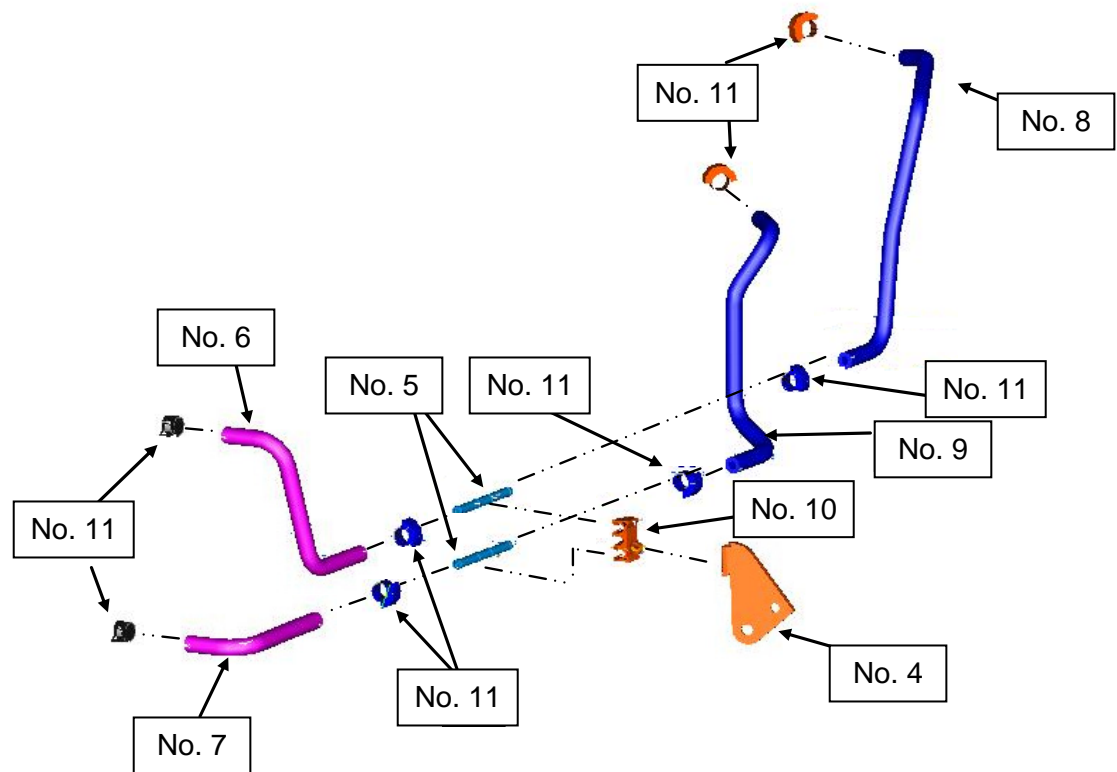
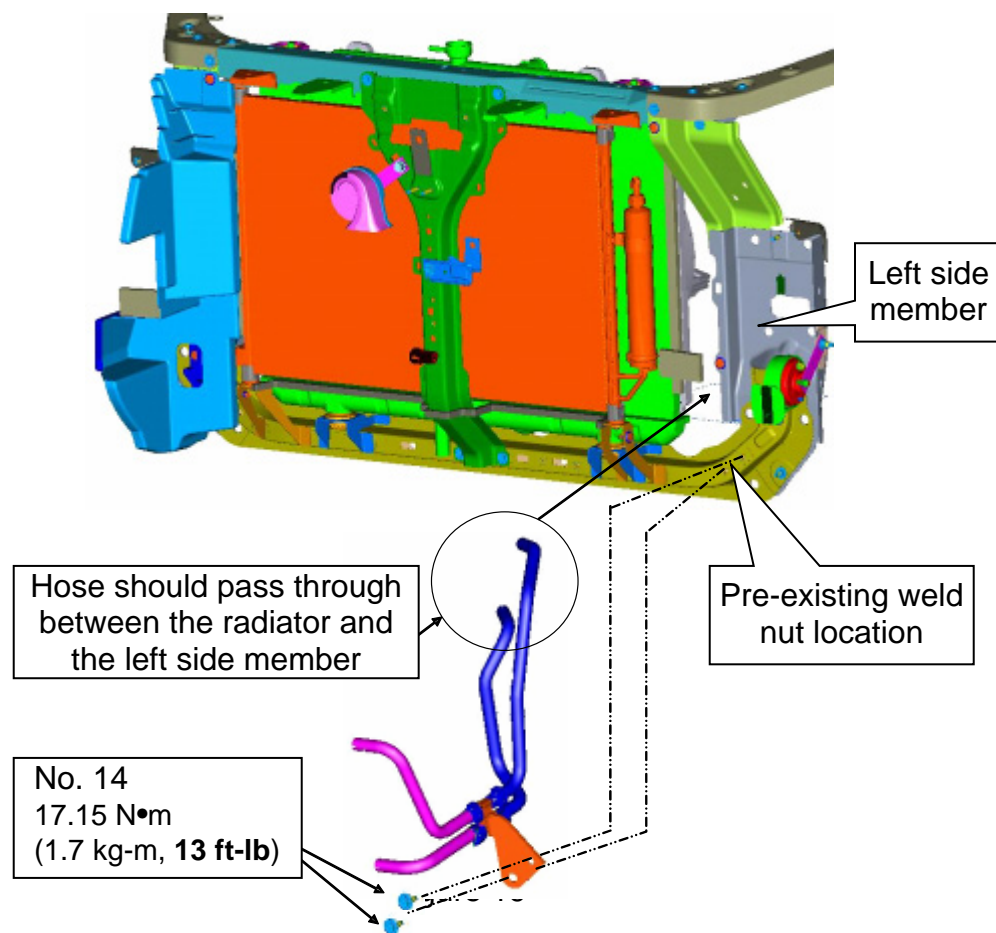

Figure 19
Figure 23
Figure 19 illustrates the COOLER ASSY-AUTO TRANS Hose Assembly referenced on page 12, steps 1-3.
NOTE: Refer to page 11, Figure 19, for steps 1-3 below.
- See page 11, Figure 19, No. 4.
NOTE: Refer to page 11, Figure 19, and Figure 23 below for steps 1-3.
2. Install the HOSE (page 11, Figure 19, No. 6 and 7) onto COOLER ASSY-AUTO TRANS, OIL (No. 1).
- Use 2 new CLAMP-HOSE (spring clamps: page 11, Figure 19, No. 11).